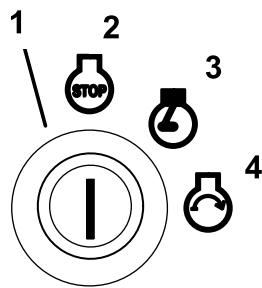

Figure 14
6. Turn the ignition key clockwise to the run position (Figure 14).
9. Turn the key to the start position and the glow plug indicator light will come back on. When the engine starts, release the key (Figure 14).
2. Turn the ignition key clockwise to the run position (Figure 14).
4. Turn the ignition key to the off position (Figure 14). Wait for all moving parts to stop before leaving the operating position.